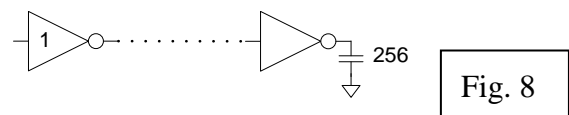

Fig. 8
- Design a tapered buffer to drive a 256-unit loading (relative to  $C_{in}$  of unit inverter) as shown in Fig. 8. (5%)